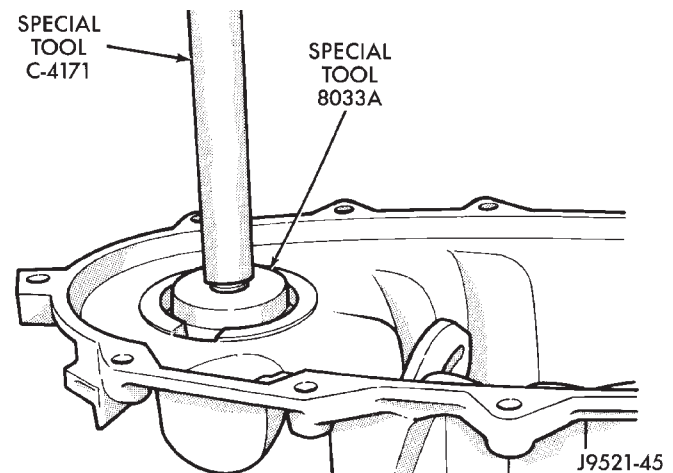

Fig. 37 Front Output Shaft Front Bearing Installation
(3) Install new front output shaft bearing with Tool Handle C-4171 and Installer 8033A (Fig. 37).